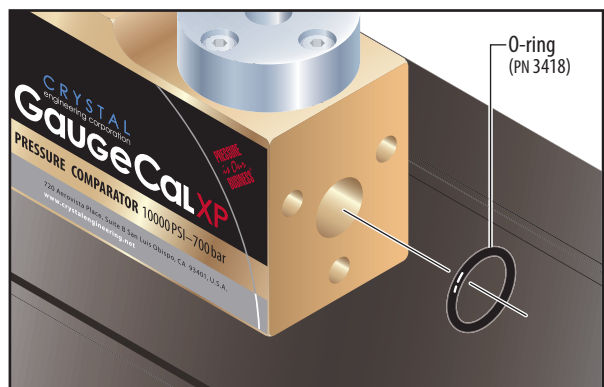

Figure 11
- 15** From the front of the Manifold Block, remove the Main Seal Block o-ring (PN 3418) (**figure 11**).